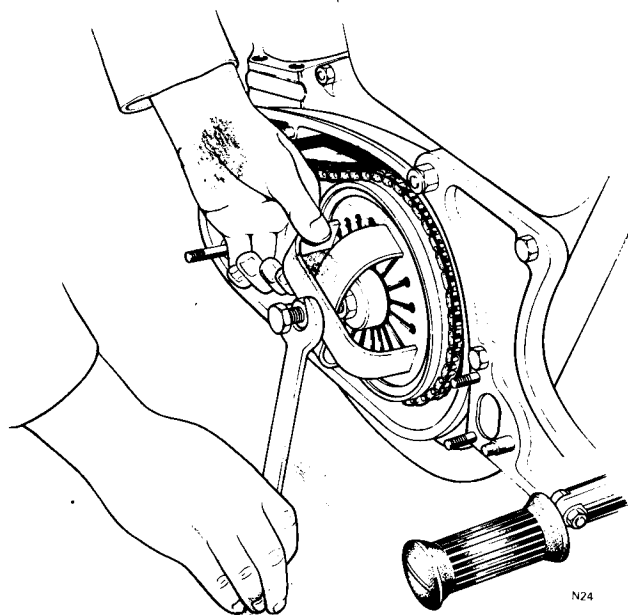

Fig. C13 Diaphragm spring compressor tool 060999 in use
- 7 In order to dismantle the clutch, a compressor tool part number 060999 is needed for the diaphragm spring of the clutch. The tool is shown in use in Fig. C13. Note that the tool has been screwed into the adjuster hole in the spring centre. The centre bolt must be lightly tightened and must be at least $\frac{1}{4}$ in. engaged into the diaphragm spring centre. Now place a spanner on the withdrawal nut as shown in Fig. C13. Turning clockwise will tighten the withdrawal nut until pressure has been released from the diaphragm spring and the spring is completely free to rotate.